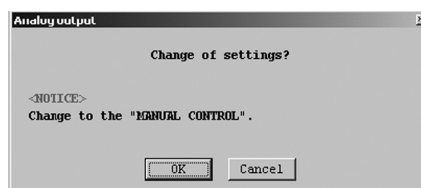

Fig.28
- ④ After filling in all the fields required, click on "OK" button. A message box as shown in Fig. 28 then appears.